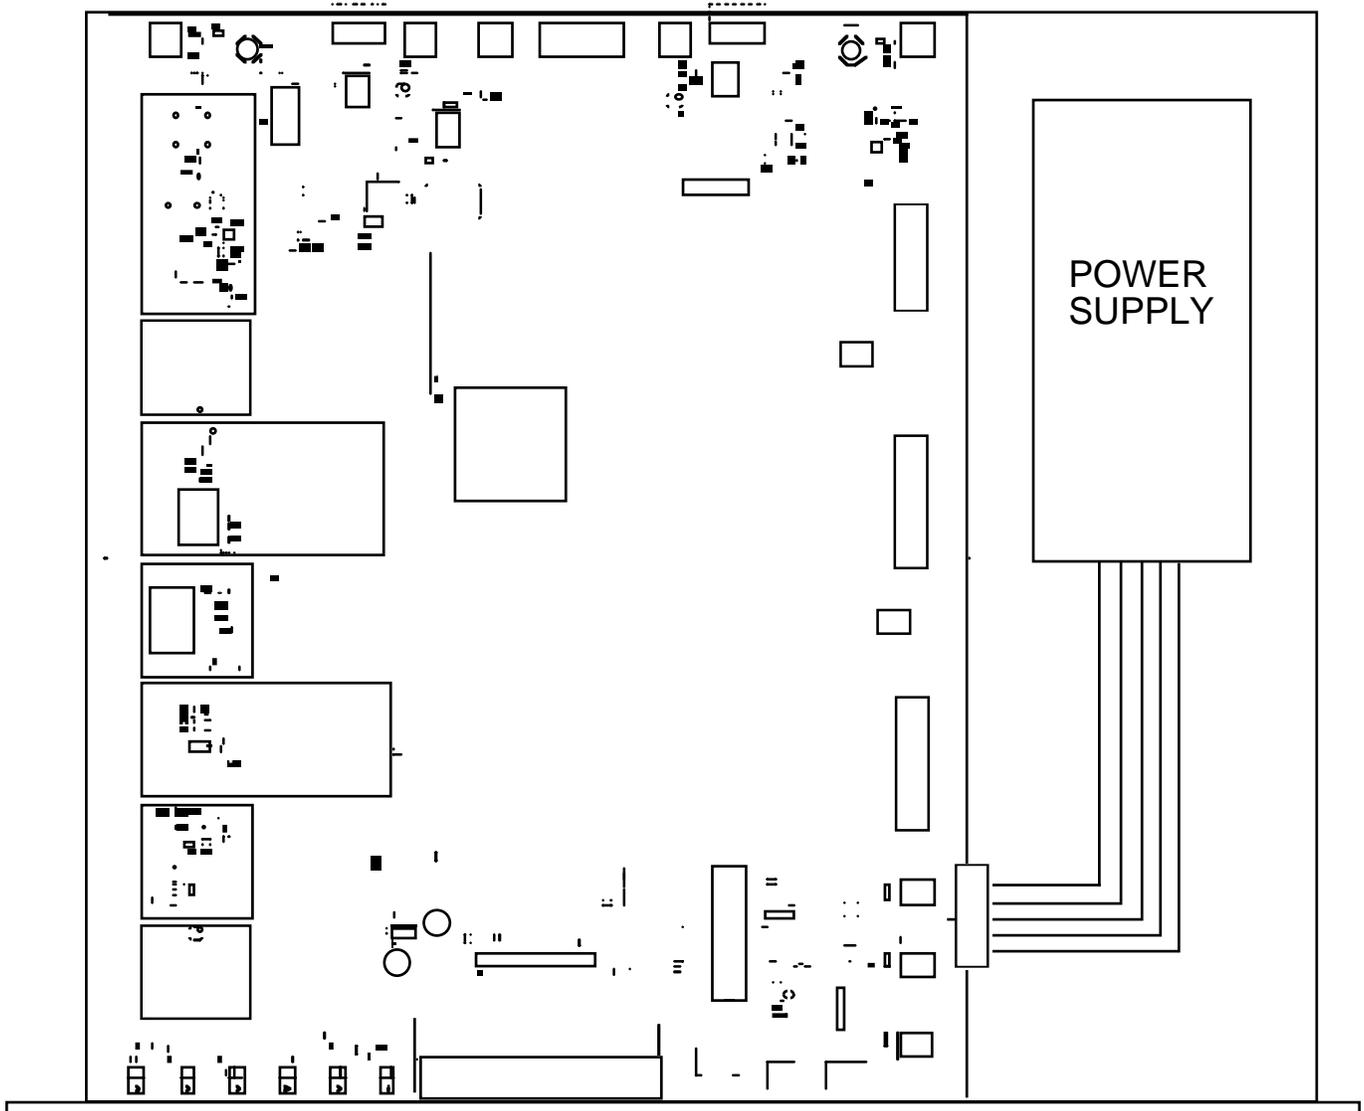

FIGURE 2.1 2083-0914 Mechanical Assembly
2.1 Mechanical - The 2083-0914 consists of one RF/Controller PCB housed in a 1 RU (1 3/4 inch high) by 16 inch deep chassis. A switching, ± 12 , +24, +5 VDC power supply provides power for the assemblies. The 2083-0914 can be secured to a rack using the 4 holes on the front panel. Figure 2.1 shows how the 2083-0914 is assembled.